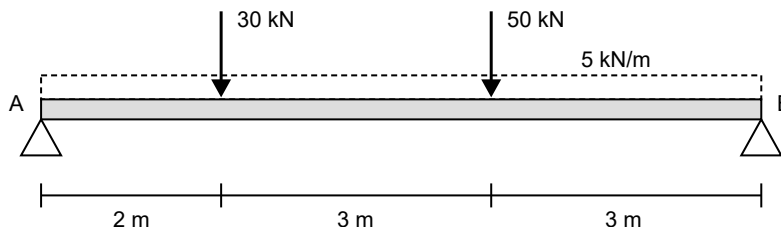

FIGURE 4.2
- 4.2 The beam AB in FIGURE 4.2 is 8 m long and simply supported at A and B. It carries point loads of 30 kN and 50 kN, and a uniformly distributed load of 5 kN/m over its whole length. Calculate the reactions at A and B. (7)